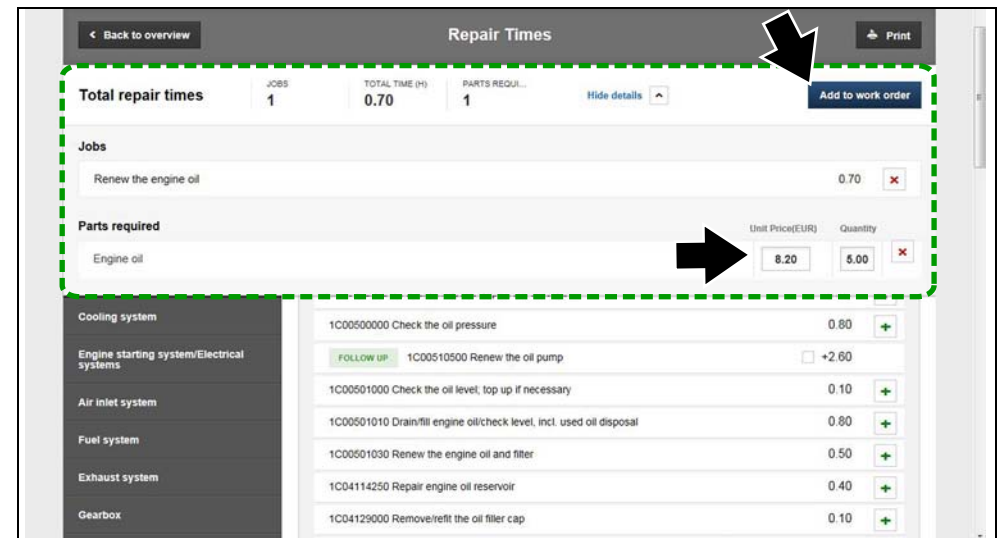

Figure 9-23
3. Select the **View Details** dropdown box to display your selections (Figure 9-23)
4. Enter the “**Parts Required**” unit price and “**Quantity**” as needed (Figure 9-23). Select the + mark when finished.
5. When completed, select **Add to Cost Estimate** or **Add to Work Order** (Figure 9-23).